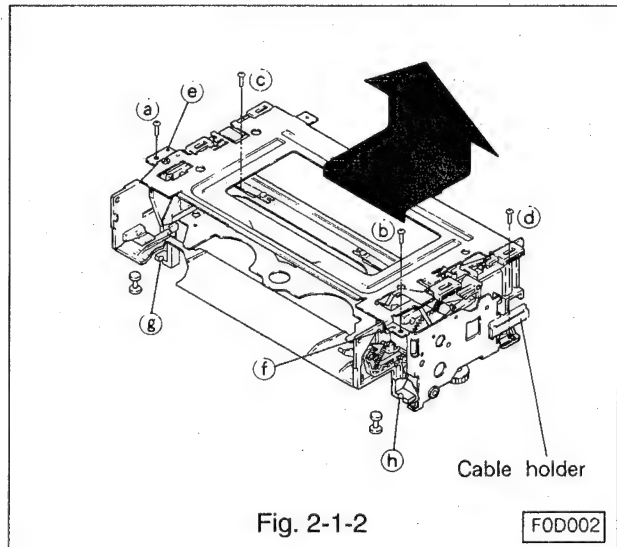

Fig. 2-1-2
- Unscrew four cassette housing fastening screws (a~d). Raise the cassette housing slowly in the direction shown by the arrow.(Refer to Fig. 2-1-2.)
- Fasten the housing to the deck with the four screws(a~d).(Refer to Fig. 2-1-2.)